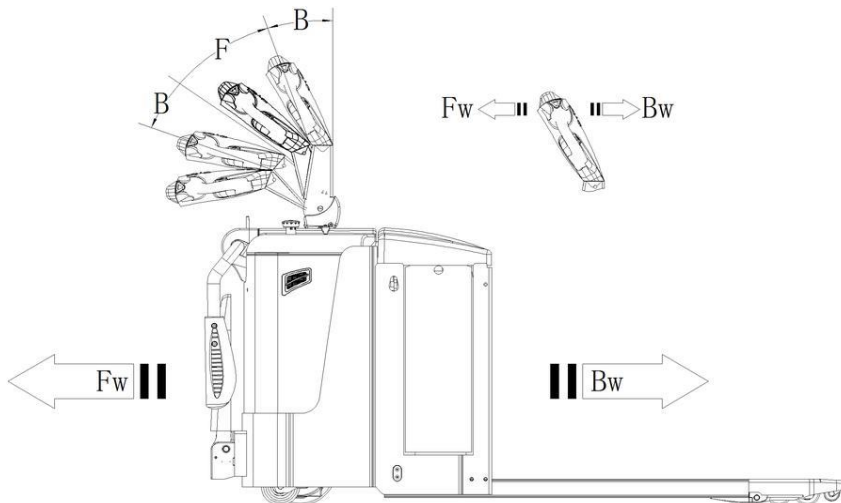

Fig. 9: Operating direction
After starting the truck by turning on the key switch (10), or by activation from Pin-code panel, move the tiller to the operating zone ('F', fig.9).
Turn the accelerator button to the desired direction forward 'Fw.' or backwards Bw.'(fig. 9).